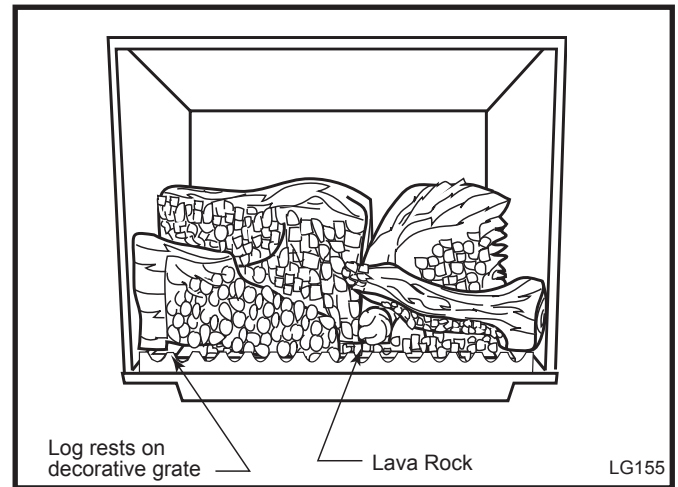

Fig. 40 Completed log installation.
4. Install the right log by engaging hole on the bottom with pin on the right rear log. (Fig. 40) Set the bottom of the log on the bracket and bring forward to come in contact with decorative grate on right.